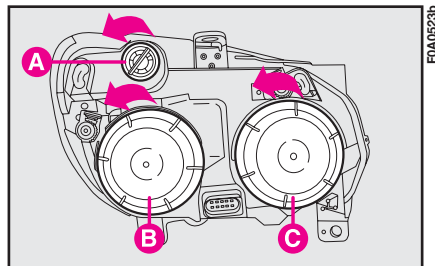

fig. 18
- 1) Remove the protection cover **C**-fig. 18 turning it counterclockwise;
- 1) Remove the protection cover **B**-fig. 18 turning it counterclockwise;
- 1) Turn the bulb holder **A**-fig. 18 and remove it.